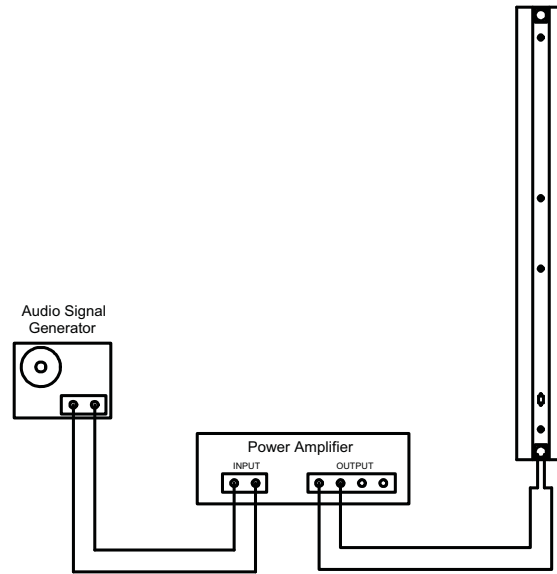

Figure 5. Panaray® MA12EX Test Setup Diagram
**1.1** Set up the system for test as shown in Figure 5 above.
**4.1** Set up the system for test as shown in Figure 5.